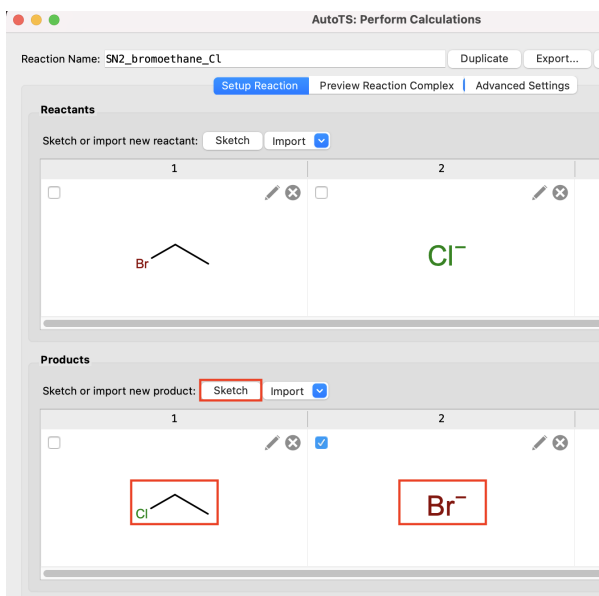

Figure 3-4. Sketching the products in the AutoTS panel.
- Your inputs should match the *Figure 3-4*.